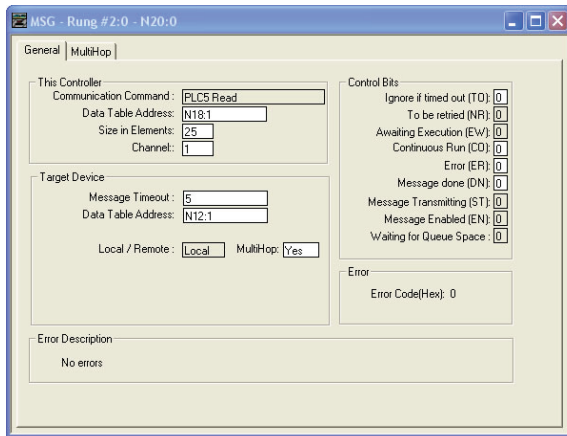

Figure 71: MSG Configuration, "General" Tab
- b) Upon hitting the <ENTER> key while in the “Control Block” entry box, the MSG Properties dialog box should appear (or it can be opened by clicking on the “Setup Screen” button at the bottom of the MSG instruction). Refer to Figure 71.